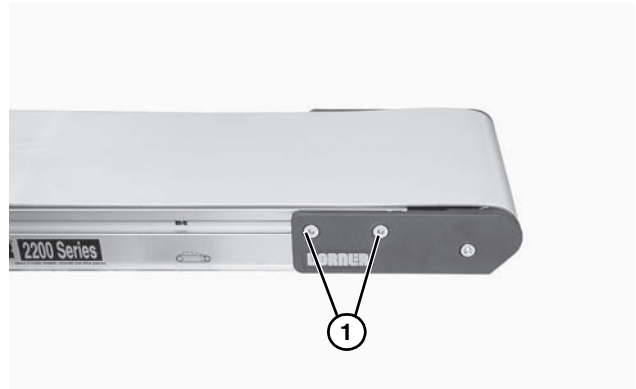

Figure 35
1. On one side of the conveyor, loosen two (2) head plate fastening screws (**Figure 35, item 1**) and remove them.